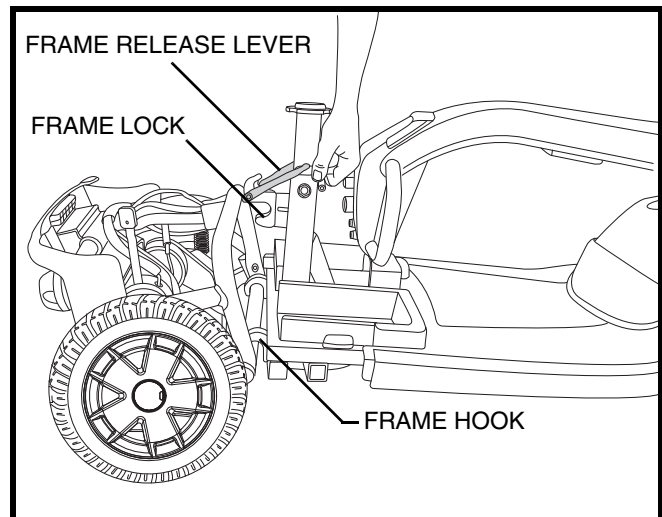

Figure 22. Frame Release
1. Lift up on the frame release lever. See figure 22.
2. Lift the front section up until the frame hooks of the front section separate from the rear section. See figure 22.
**NOTE:** Stabilise the rear section with your free hand by holding onto the upper frame tube. See figure 22.
3. Slowly separate the two sections. See figure 22.
3. Once the frame hooks are over the lower frame tube, lower the front section completely. This will engage the frame lock. See figure 22.